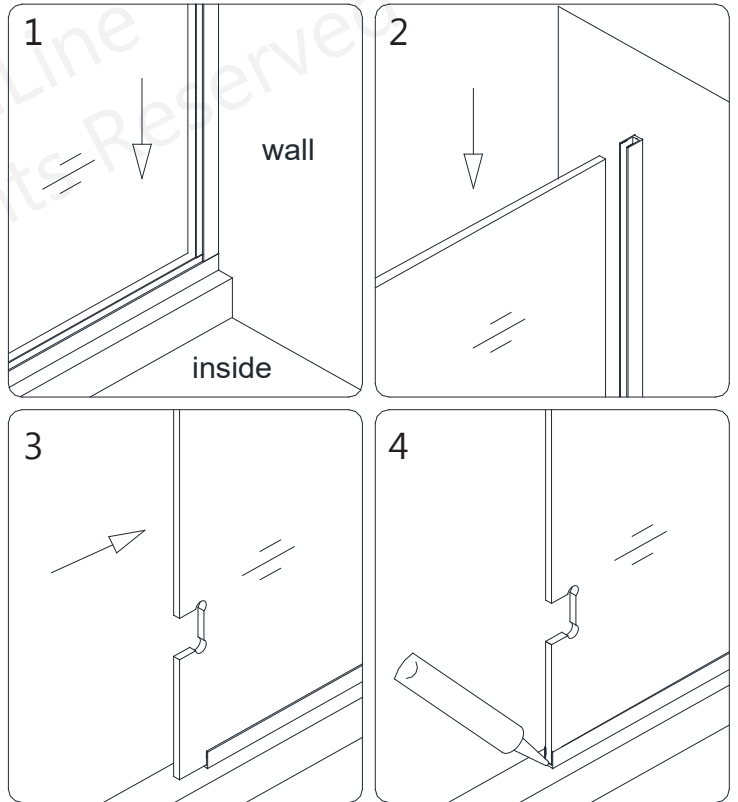

Fig 15a
15. Install the **Hinge Panel Glass (#32)** into the **U-channel 2 (#29) (bottom profile)** and the **U-channel 1 (#09) (wall profile)**. Apply a dab of silicone to the exposed end of the bottom u-channel. (**Fig 15a and 15b**)